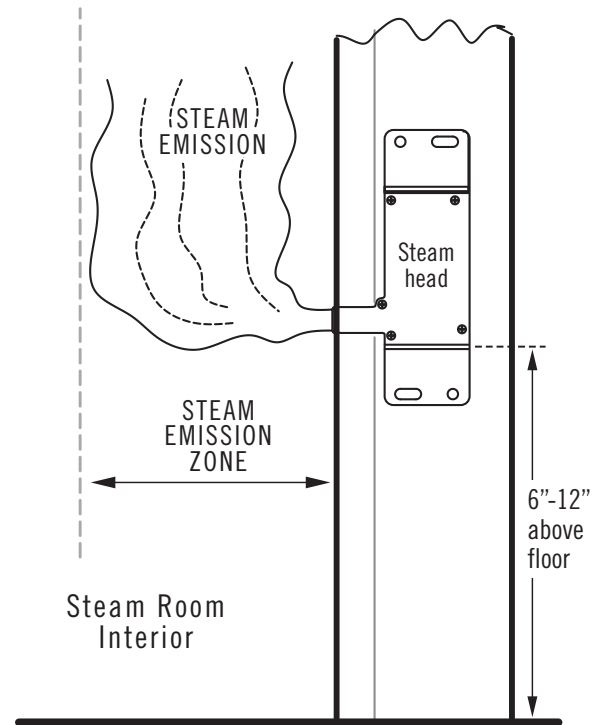

Figure 2
! CAUTION Because steam emissions are very hot, locate the steam head where incidental contact by the bather with direct steam emission cannot occur. Do not locate the steam head in any location where the steam emission zone is near a seat, bench or any space occupied by any persons. See Fig. 2 for a diagram of the steam emission zone. Failure to follow these instructions may result in a hazardous condition, scalding or personal injury.
STEP 1. Locate the steam head 6-12" above the finished floor. Do not locate the steam head in any location where the steam emission zone is near a seat, bench, or any space occupied by any persons. See Fig. 2 for a diagram of the steam emission zone.